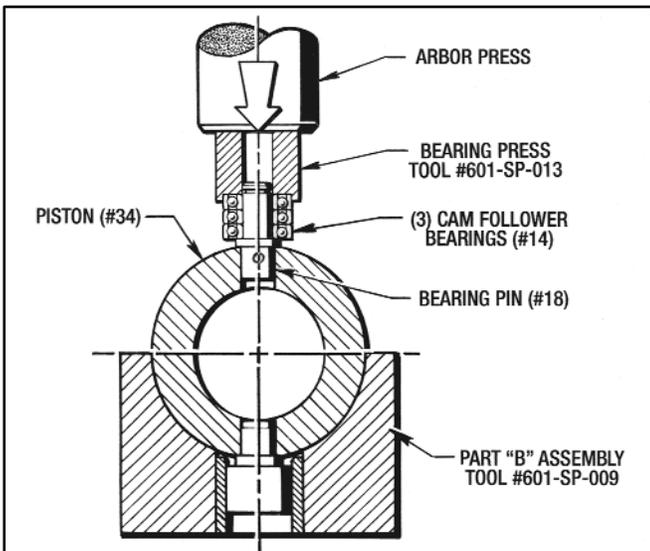

Figure 7.8 - Installing Cam Follower Bearings (#14)
- Lightly coat the remaining O.D. of the Bearing Pin (#18) and the I.D. of the (3) Bearings (#14) with Green Loctite #609.
- Press the (3) Bearings (#14), one at a time, onto the Bearing Pin (#18) with an Arbor Press and Bearing Installation Tool #601-SP-013 as shown in Figure 7.8.